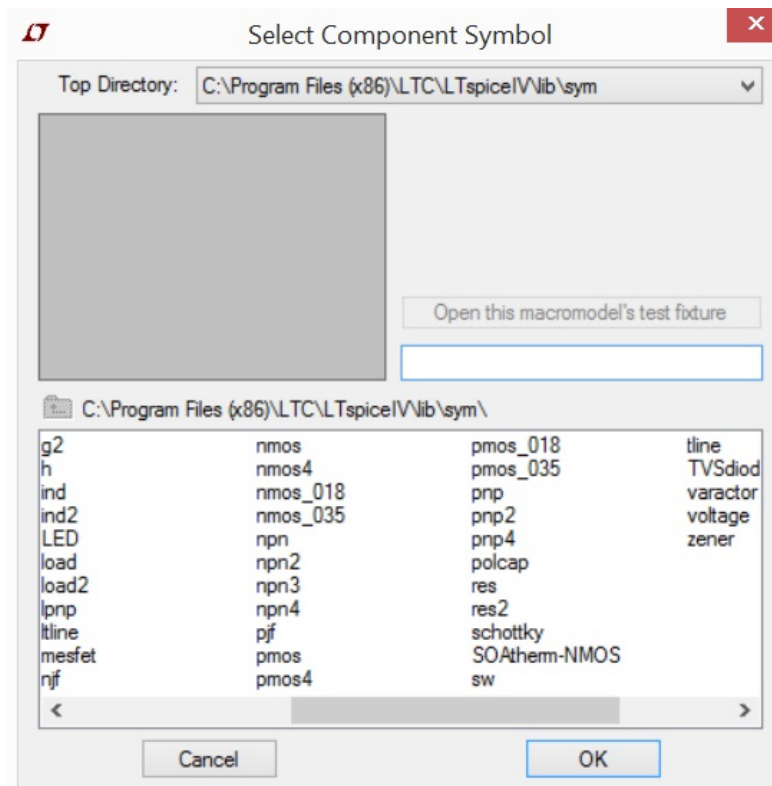

Figure 4. Select component symbol form
- B. Click  on the schematic window to add instances. The **Select Component Symbol** form pops up as Figure 4. It lists all the available symbols, including LTspice default symbols as well as the symbols installed in section 1.1.